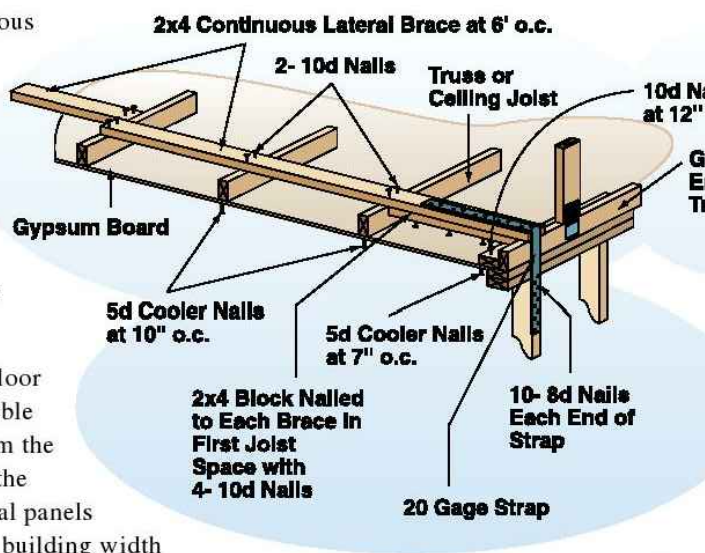

Figure 11. Ceiling Bracing Gable Endwall
- Bracing Gable End Walls.** When attic floor or ceiling assemblies are used to brace gable endwalls, the assemblies shall extend from the endwall for a distance of at least 40% of the building width when using wood structural panels and for a distance of at least 125% of the building width when using gypsum wallboard ceilings. Sheathing and fasteners shall be as specified in Table 2 (See page 7) and Figure 11.